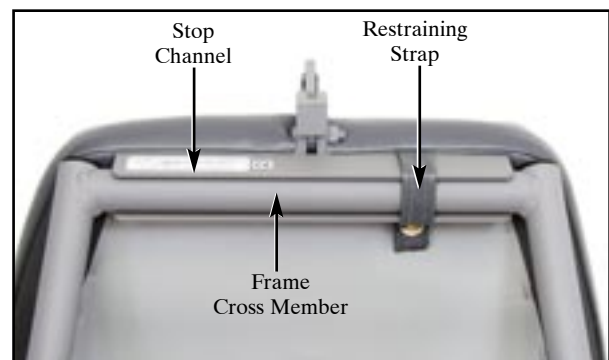

Figure 2 - Securing Leg Frame
2. Turn the ADC-08CF Stool upside down and set on the edge of an elevated flat surface such as a table or counter top. Scissor the leg frame so that the frame cross member lines up with the stop channel at the rear of the stool on the underside. Fit the frame cross member into the channel and push firmly into place (Fig. 2). Wrap restraining strap over the top of the cross member and snap into place. Ensure that the strap retains the frame cross member firmly into the stop channel.